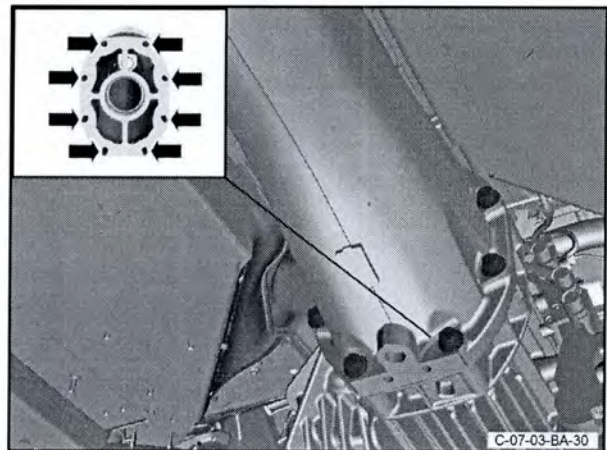

Figure 25
47. Remove the eight bolts that attach the transaxle to the torque tube (refer to Figure 25).
86. Install six of the eight bolts that attach the transaxle to the torque tube (refer to Figure 25).